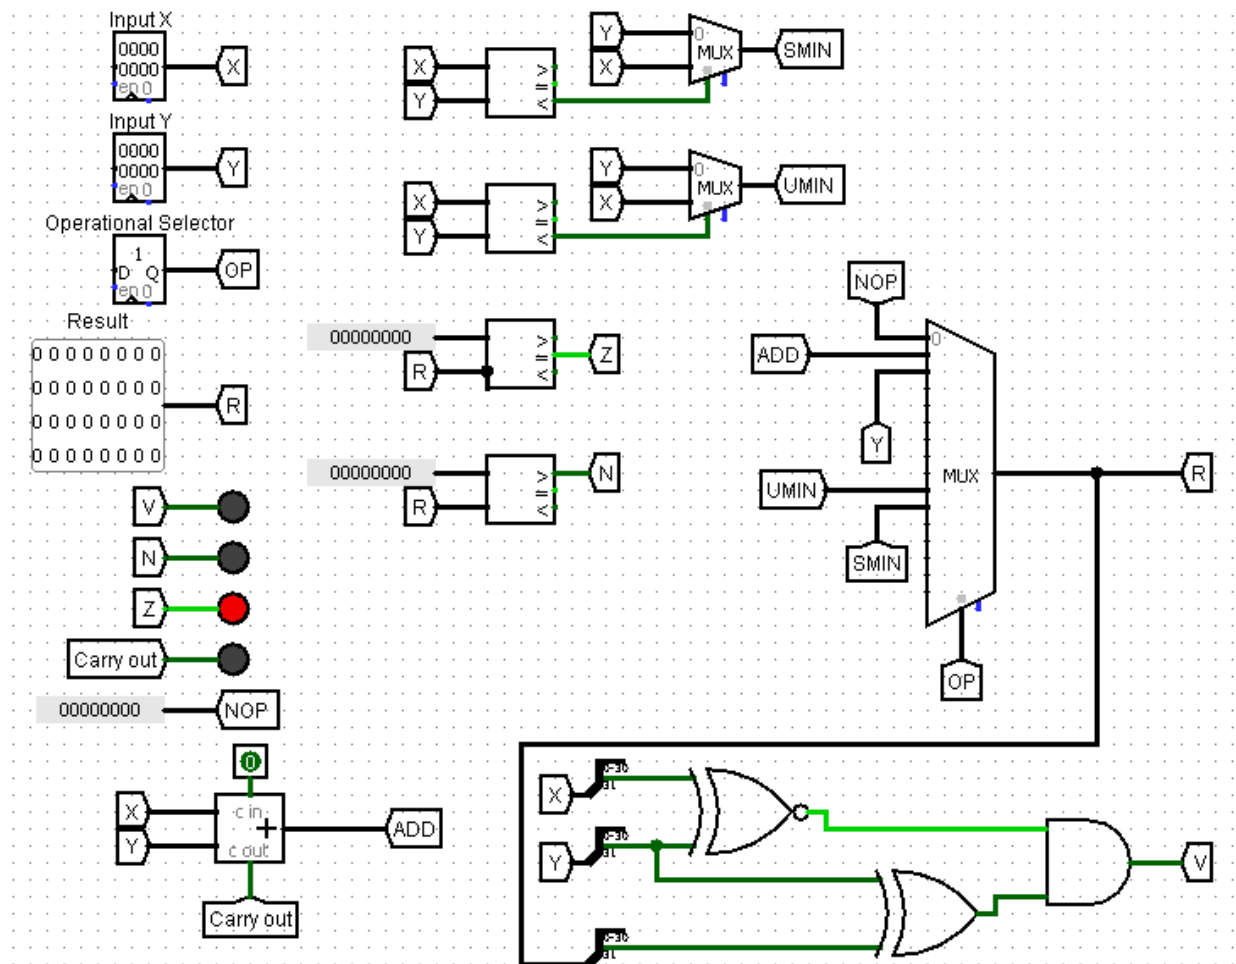

Figure 1: 32-Bit ALU
The circuit shown above IN Figure 1 takes input X, Y, and OP, then decides on which operation to use based on the input and Outputs the result of the operation (R), Negative (N), Overflow(V), Zero (Z), Carry Out (C)